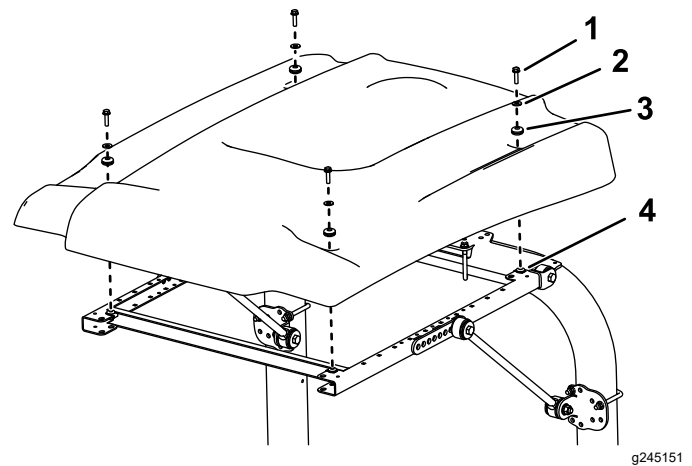

Figure 28
15. While aligning the mounting holes, position the sunshade onto the frame as shown in Figure 28.
16. Loosely mount each corner of the sunshade to the frame with a flange-head bolt (5/16 x 1-1/4 inches) a small washer, and a grommet (Figure 28).